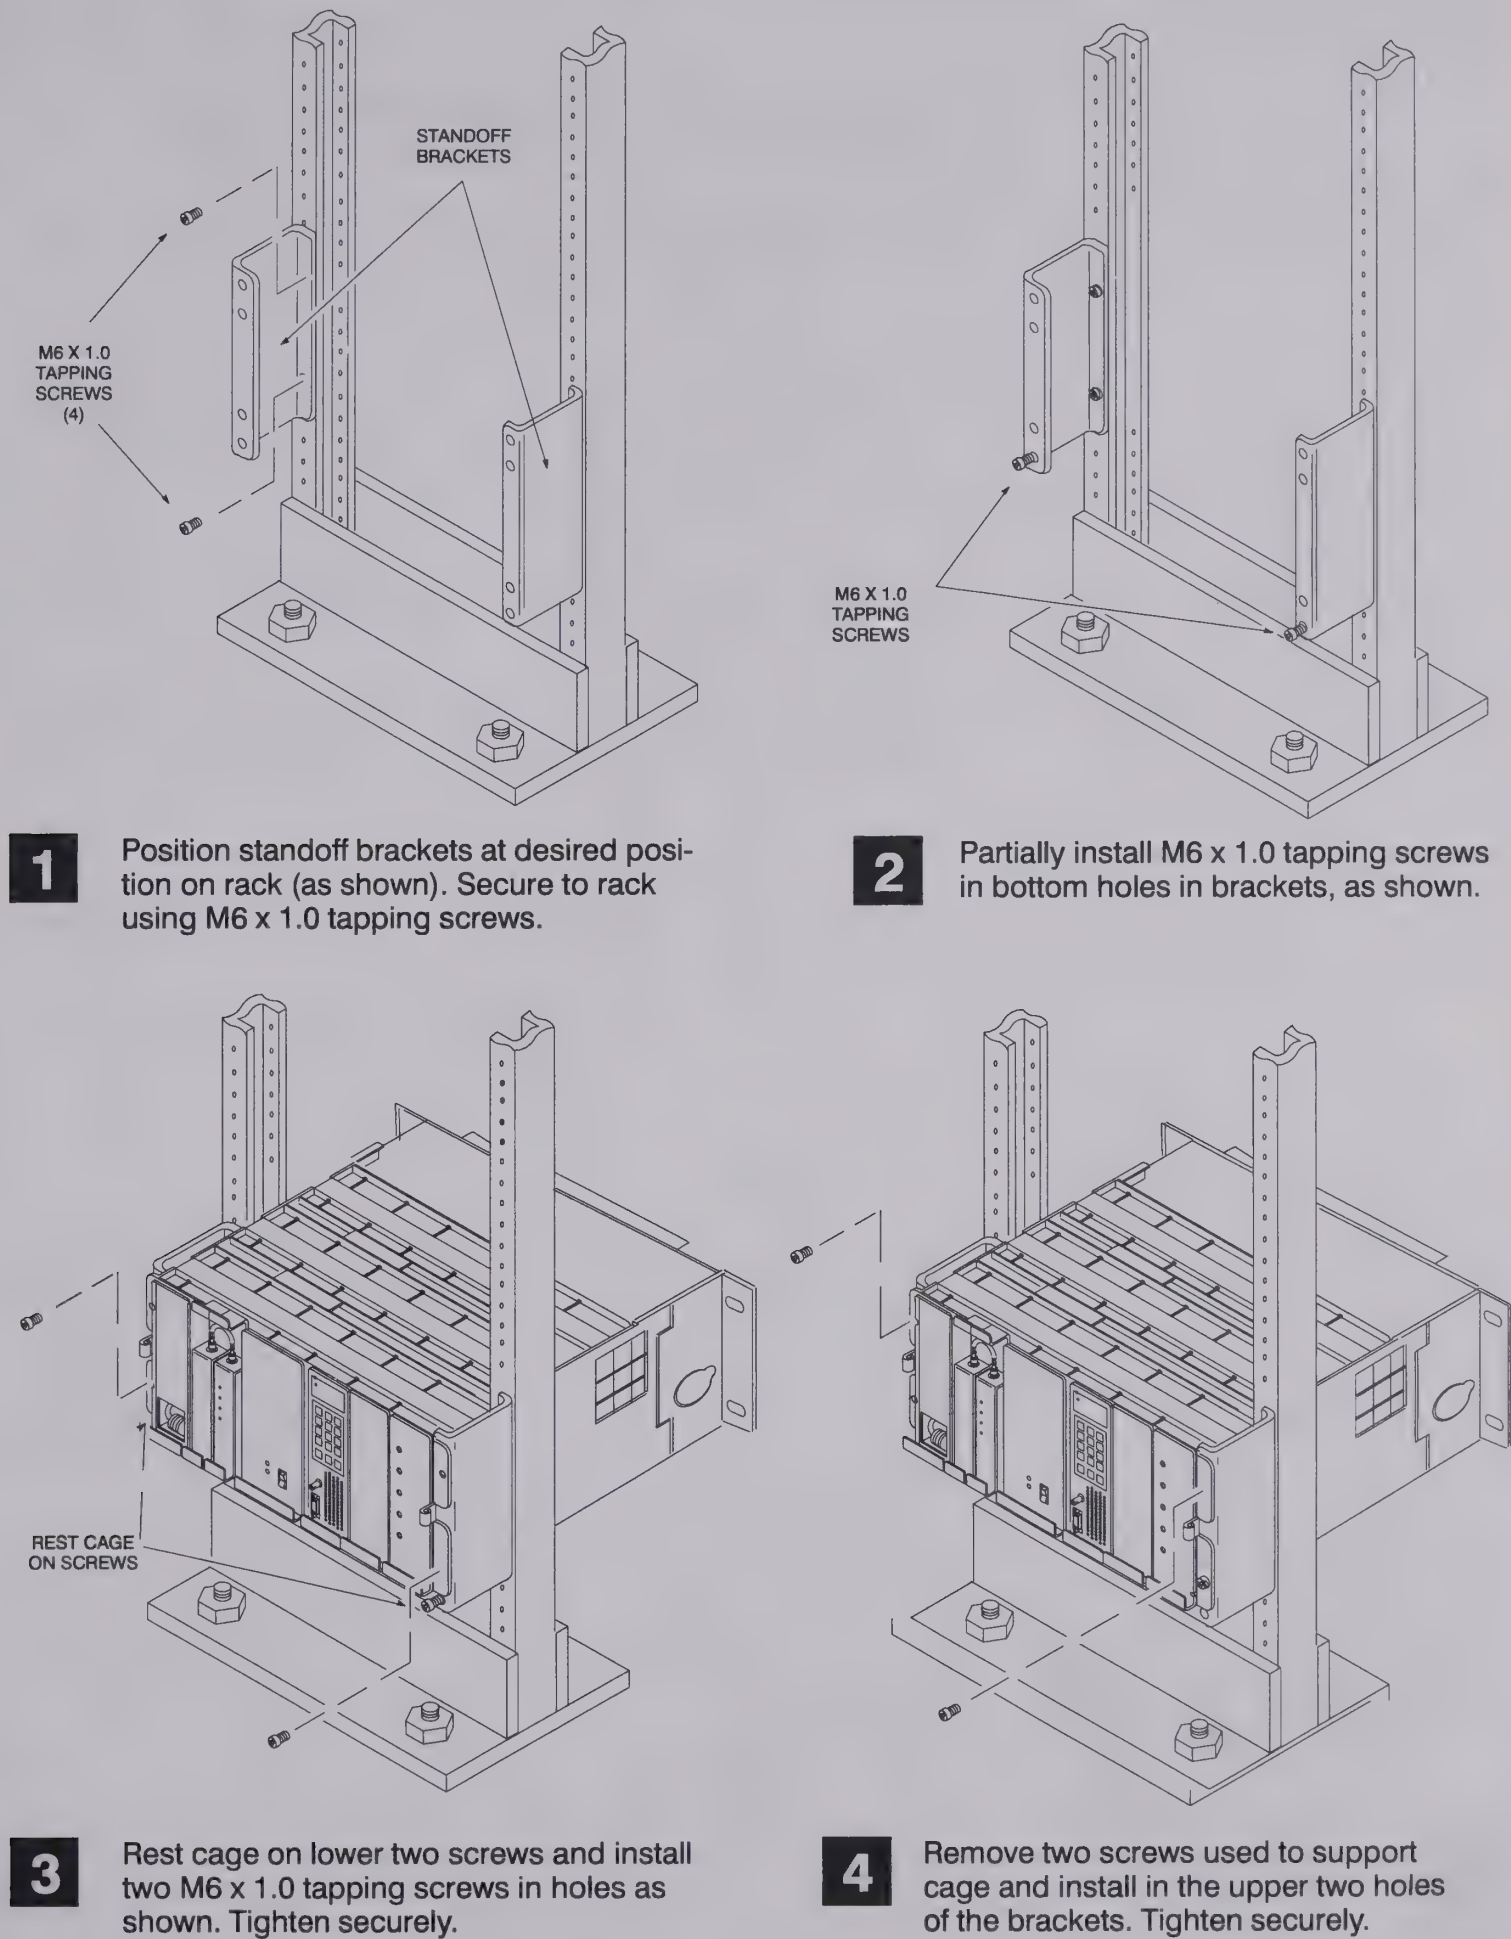

Figure 4–8. Installation Procedure for Rack Standoff Brackets (Standard Power Chassis Shown)
*Nucleus* Paging Stations intended for field-mounting in an EIA rack require standoff brackets to center the cage within the rack mounting rails. Order Option X153, which includes mounting brackets and slotted screws. Mount the cage(s) as described in Figure 4–8.